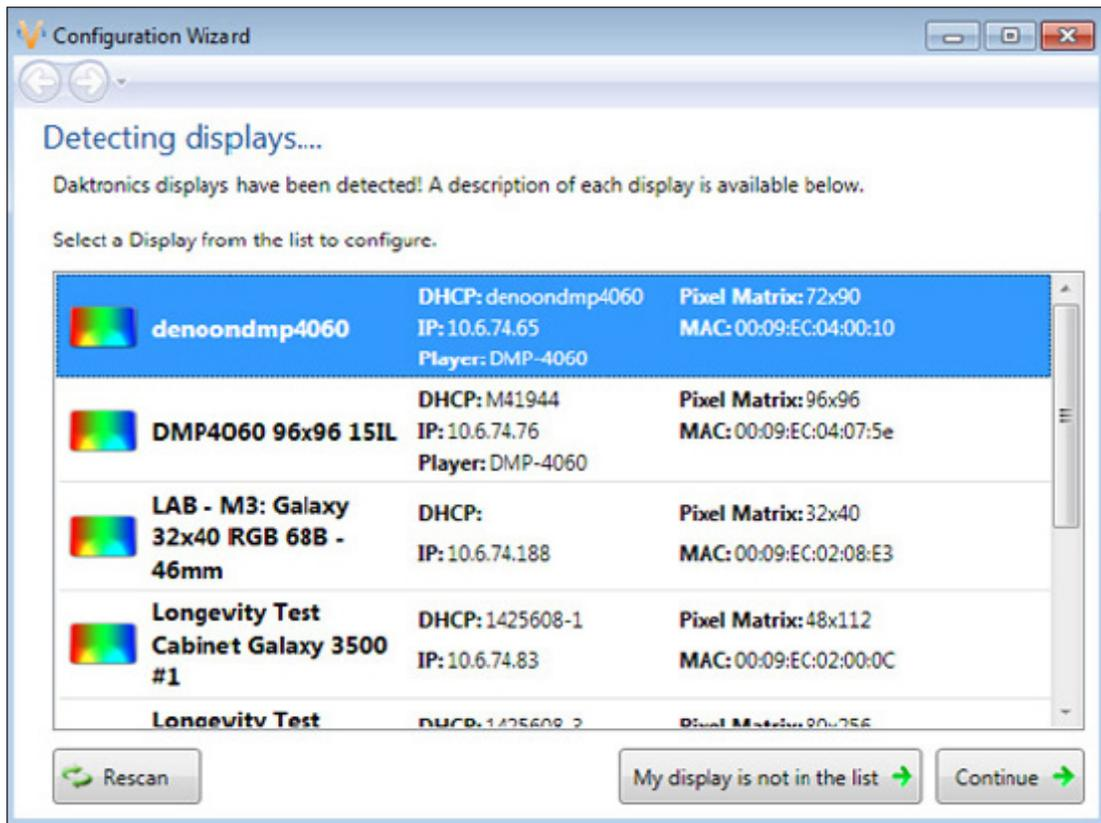

Figure 44: List of Displays
- Select the desired display to configure and click **Continue**. Refer to **Figure 44**.